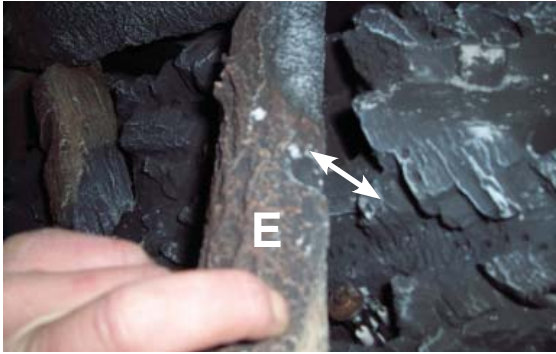

Figure 92: Log E Locator
- 7) Identify locator on Log E and opposing Locator on the Ceramic Log Burner as shown in Figure 92. Place Log E gently on Burner.
- 10) Identify locator on Log H and opposing Locator on Log B as shown in Figure 92. Place Log H gently on Log B.